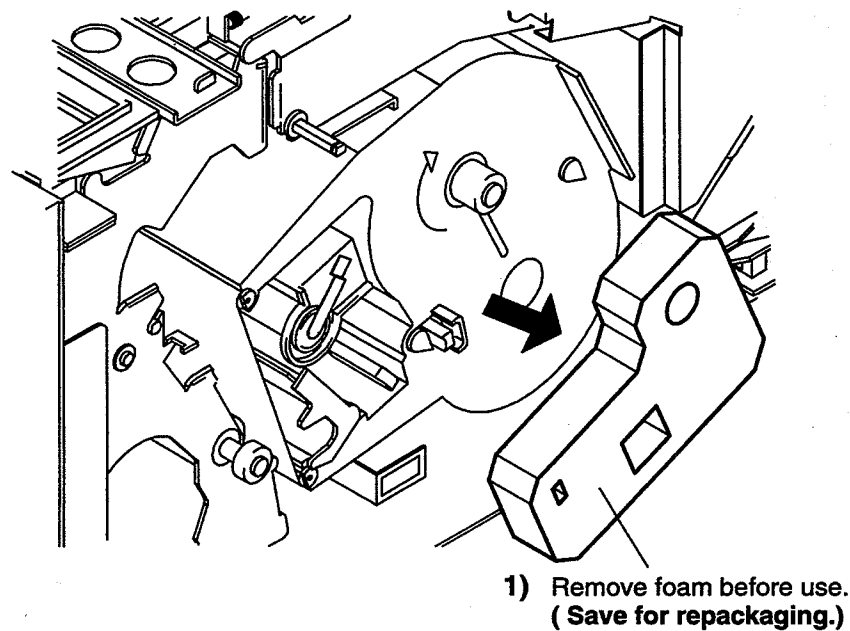

FIGURE 2-3. UNPACKING
3. Locate and remove the foam used to secure the printhead (refer to figure 2-3).